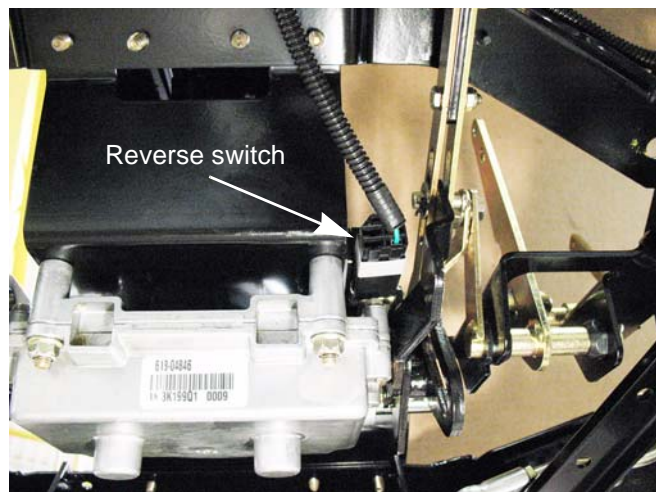

Figure 6.13
9. Disconnect the reverse switch. See Figure 6.13.